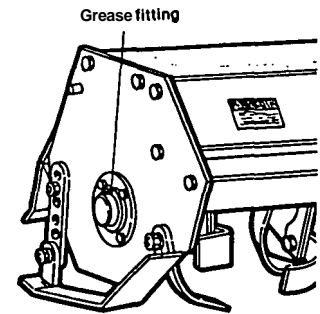

Fig. 26
- 3 Rotor Shaft Bearing - Apply **2-3 shots of** grease to grease fitting at right end of rotor shaft using hand pump grease gun (**fig. 26**).